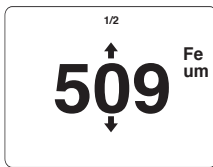

Figure 4
3. Lift the instrument after approximately 2 seconds and the measured value will be displayed (as shown in Figure 4).